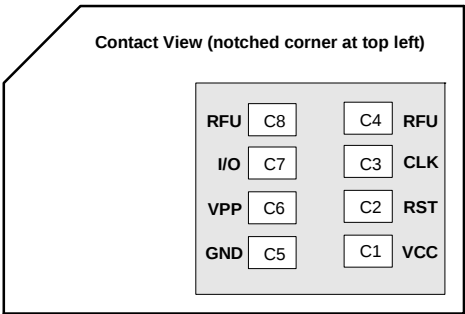

Figure 3-3: SIM Card Contacts (Contact View)
a. See Figure 3-3 on page 20 for SIM card contacts.